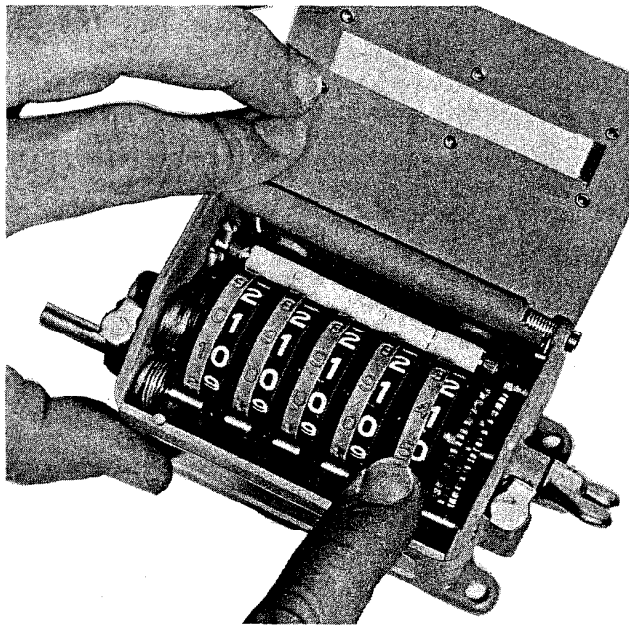

Figure 3. Rotating Right-Hand Predetermining Ring.
C. Lift the cover and hold open. Press the first gray predetermining ring toward the right, Figure 3. Rotate the ring until the number 5 is aligned with the zero of the black right-hand counting wheel. Release the gray ring and rotate it slightly to be sure it is properly seated.